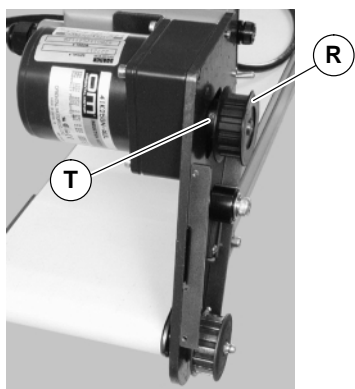

Figure 16
6. Loosen two (2) set screws (T of Figure 16). Remove drive pulley (R).
8. Mount new gearmotor with four (4) screws (X). Tighten to 45 in-lb (5 Nm).
9. Replace drive pulley (R of Figure 16) and tighten set screws (T).